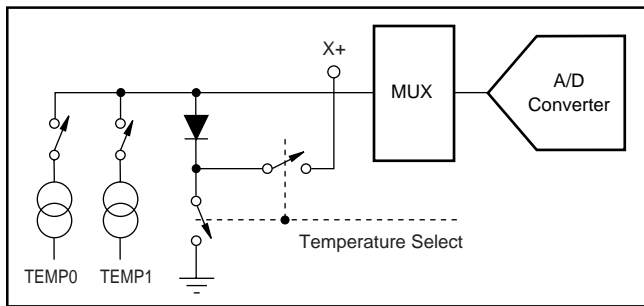
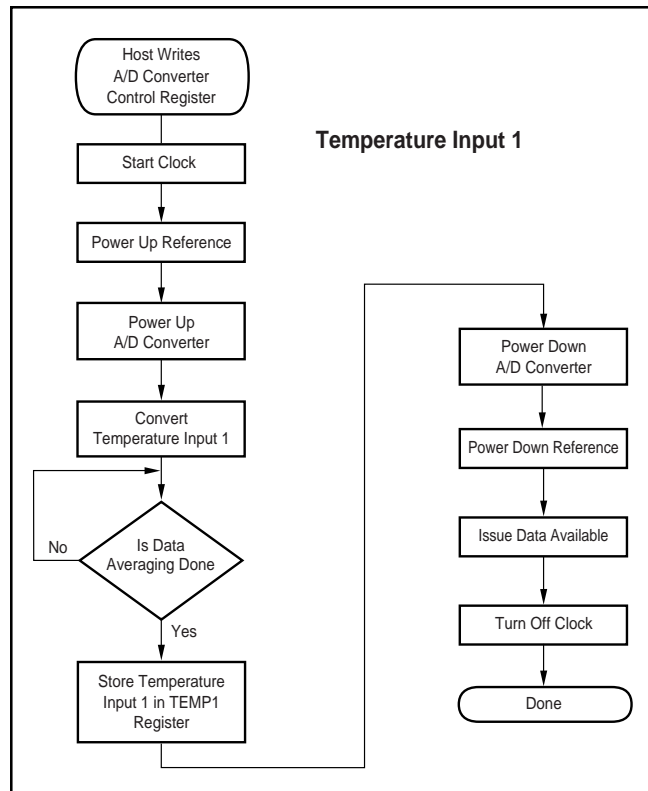

FIGURE 18. Functional Block Diagram of Temperature Measurement Mode.
FIGURE 19. Single Temperature Measurement Mode.
The TSC2200 offers two modes of temperature measurement. The first mode requires calibration at a known temperature, but only requires a single reading to predict the ambient temperature. A diode, shown in Figure 18, is used during this measurement cycle. This voltage is typically 600mV at +25°C with a 20µA current through it. The absolute value of this diode voltage can vary by a few millivolts; the temperature coefficient (TC) of this voltage is very consistent at -2.1mV/°C. During the final test of the end product, the diode voltage would be stored at a known room temperature, in system memory, for calibration purposes by the user. The result is an equivalent temperature measurement resolution of 0.3°C/LSB. This measurement of what is referred to as Temperature 1 is illustrated in Figure 19.